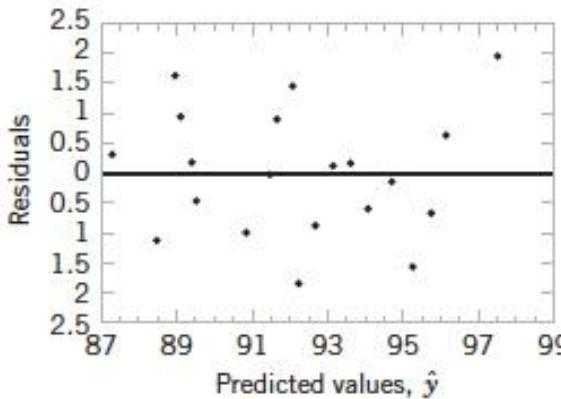
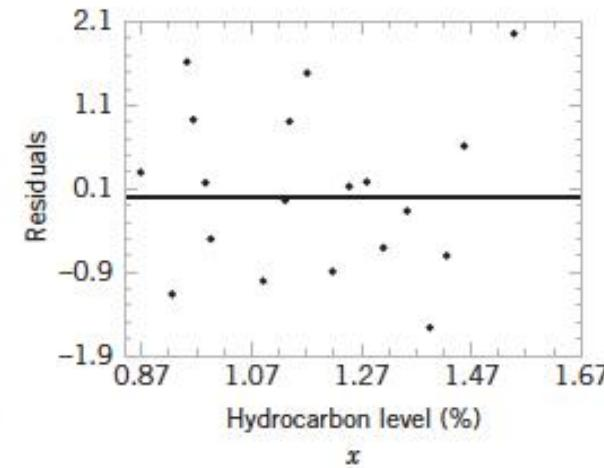

FIGURE 11.11
FIGURE 11.12
- The residuals are also plotted against the predicted value \hat{y}_i in Fig. 11.11 and against the hydrocarbon levels x_i in Fig. 11.12. These plots do not indicate any serious model inadequacies.
- A research engineer is investigating the use of a windmill to generate electricity and has collected data on the DC output from this windmill and the corresponding wind velocity. The data can be found in Figure 11.11 and listed in Table 11.5.